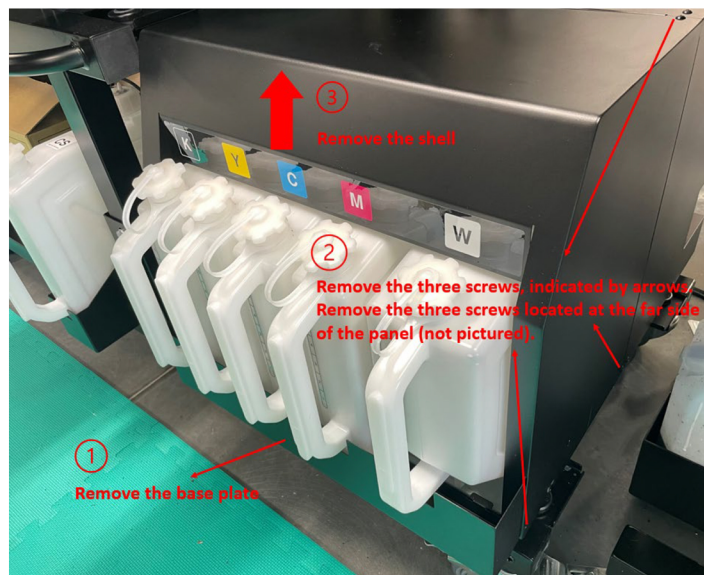

Figure 1. Removing the printer panel's shell
2. Remove the printer panel's shell around the bulk containers (Figure 1)